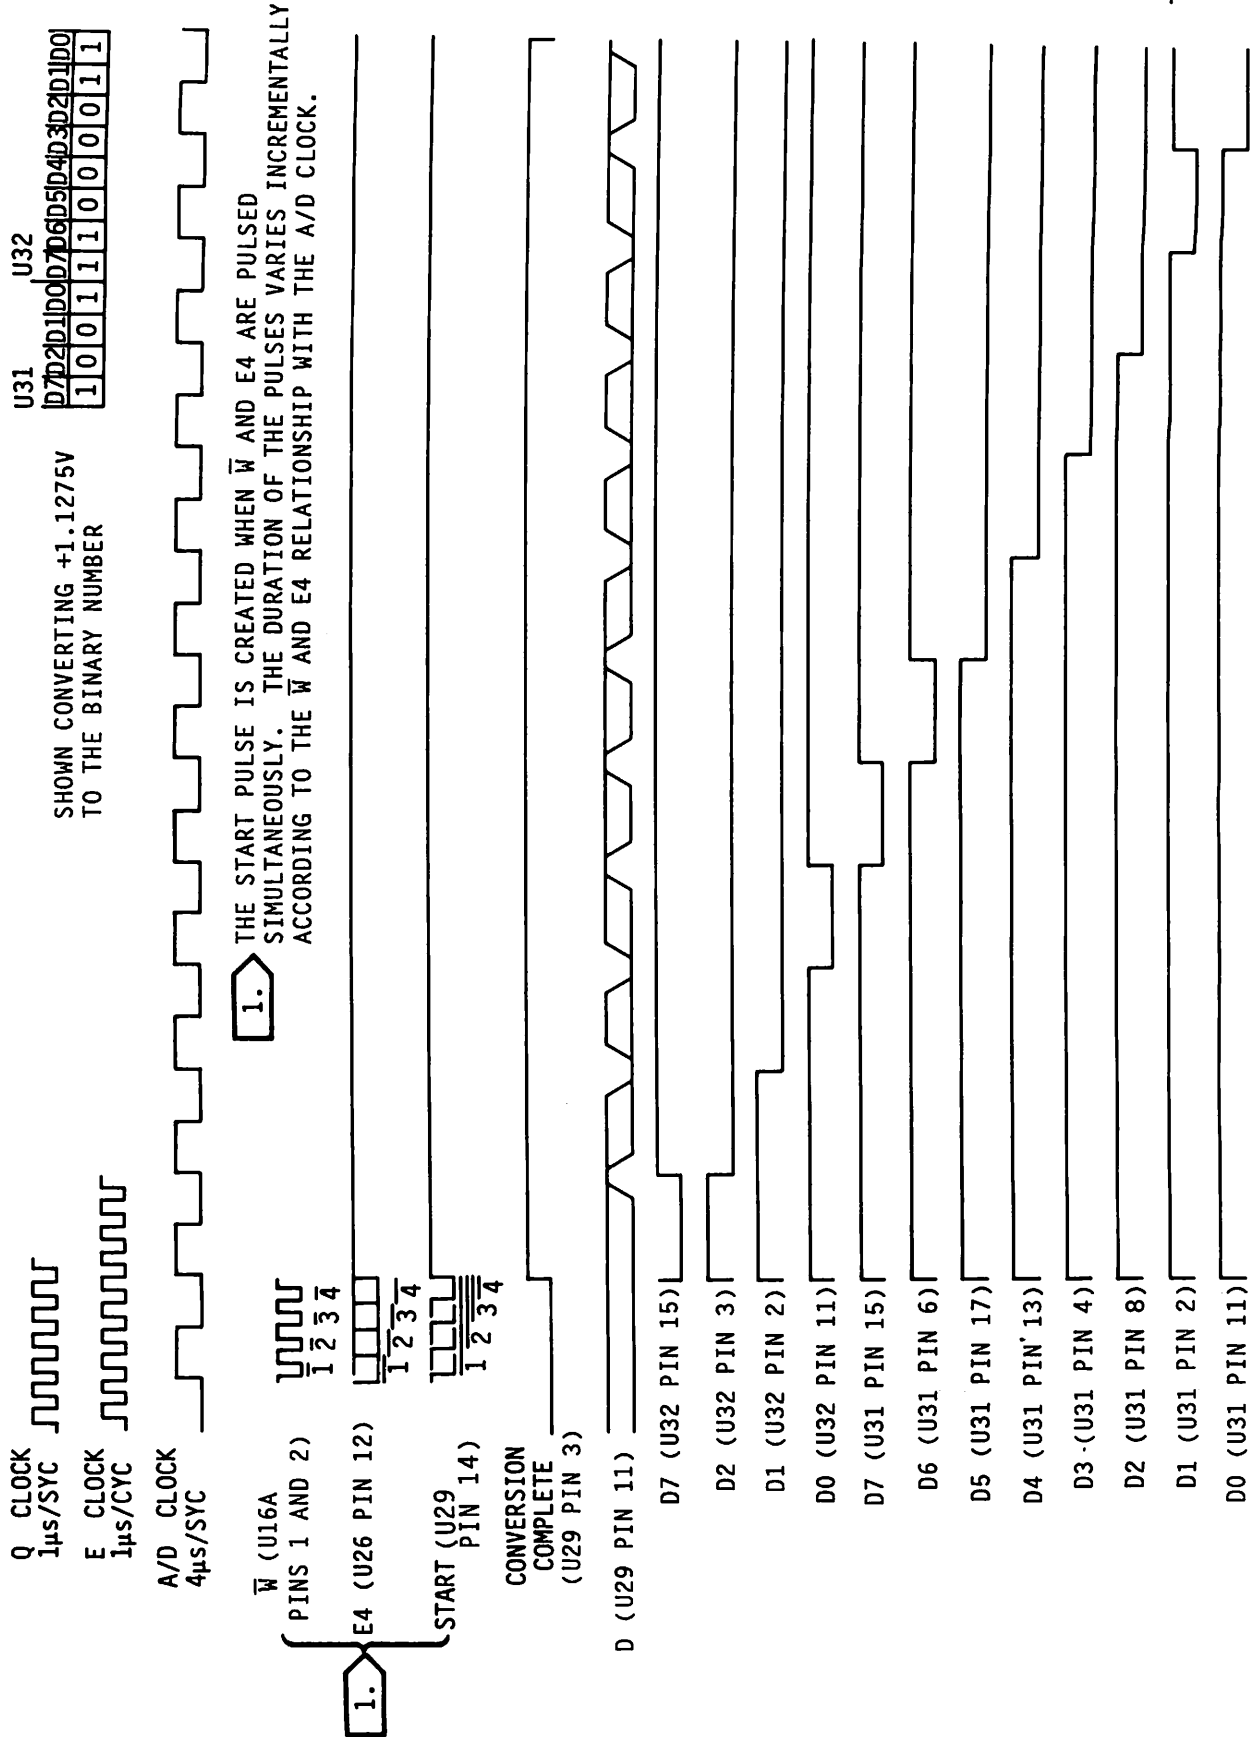

FIGURE 1-4. A/D CONVERTER TIMING DIAGRAM
- 1-10. High Speed A/D Converter. (Refer to Figure 1-4, A/D Converter Timing Diagram.) An 8-channel analog multiplexer provides data for analog-to-digital (A/D) conversion by successive approximation. A 12-bit digital-to-analog (D/A) converter is the heart of the High Speed A/D Converter circuitry.